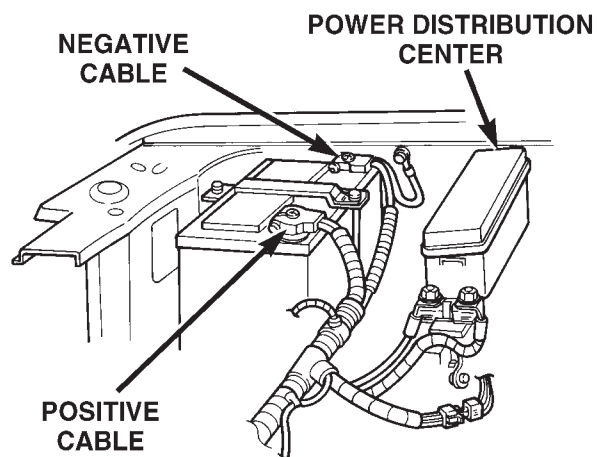

Fig. 12 Power Distribution Center
- (1) Disconnect and isolate the battery negative cable.
- (2) Remove the cover from the Power Distribution Center (PDC) (Fig. 12).
- (3) Refer to the label on the PDC for intermittent wipe relay identification and location.
- (4) Unplug the intermittent wipe relay from the PDC.
- (5) Install the intermittent wipe relay by aligning the relay terminals with the cavities in the PDC and pushing the relay firmly into place.
- (6) Install the PDC cover.
- (7) Connect the battery negative cable.
- (8) Test the relay operation.